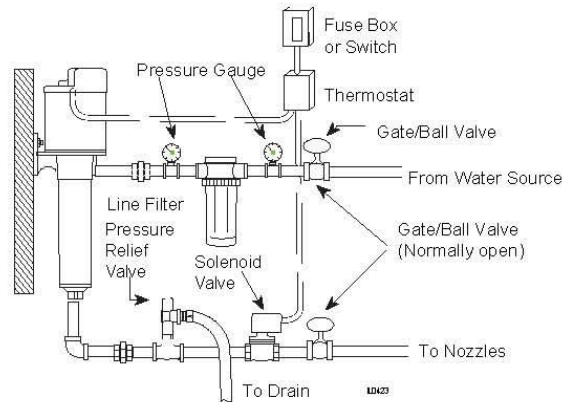

Figure 7
4. Whenever dirt, sand or debris is present in the supply water, install a strainer or filter on the inlet side of the pump (See Figure 7).